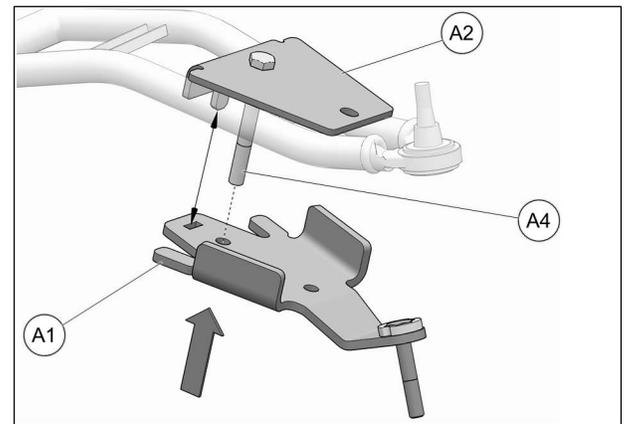

Fig. 19
6. Position bottom part of anchor bracket assembly (A1) under lower suspension arm. Push back end of bracket (A1) up over bolt (A4) already installed in cover (A2). Make sure tenon is well inserted in mortise. Refer to Fig. 19